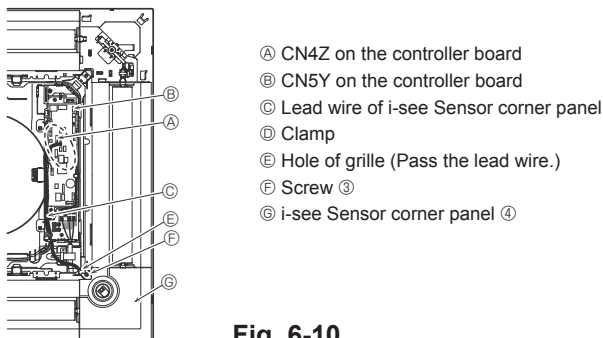

Fig. 6-10
6.4.6. Installation of i-see Sensor corner panel (Fig. 6-10)
- Route the lead wire connector (white, 4 poles and white, 5 poles) of the i-see Sensor corner panel ④ from the side of the electrical box on the main unit and connect to the connector CN4Z and CN5Y on the controller board.